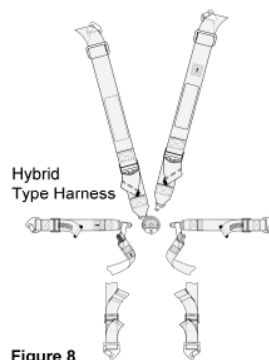

Figure 8
**C. Hybrid Belt** – Six or seven point system for automobiles with an upright OR semi-reclined seating position. See figure 8 for belt layout. upright/forward mounting. Figures 5 and 6 mounting. Consists of a two-inch or three-shoulder straps (two-inch allowed with approximately two-inch, leg straps.